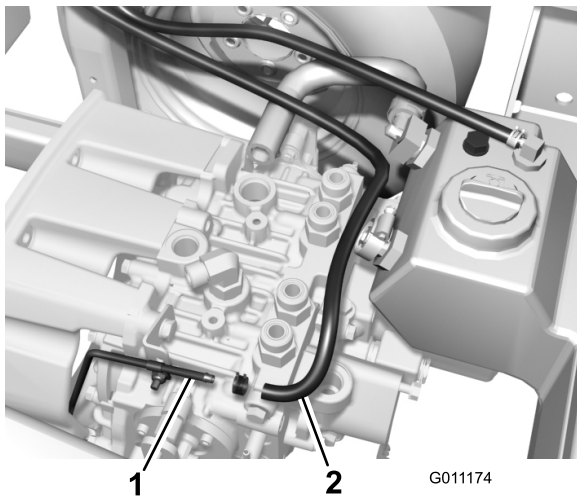

Figure 10
5. Route the new hose to the transmission tube (Figure 10).
6. Secure the hose to the transmission tube with a hose clamp (Figure 10).